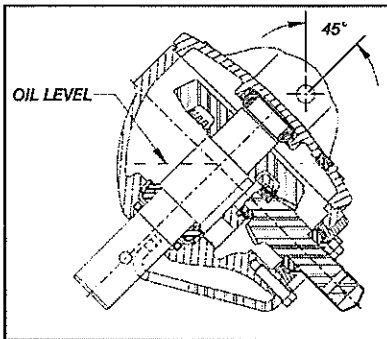

FIG. 4 - PIVOT GEARBOX 45 DEGREES TO CHECK OIL LEVEL
STEP 8: Remove the fill plug at the top of the gearbox, and fill the gearbox with two quarts of multigear lubricant EP SAE 140 **before operating the gearbox**. Tip the gearbox 45 degrees (avoid pinch points as gearbox pivots), and check the level at the plug (see Fig. 4). **DO NOT OVERFILL!** Replace the plug before operating the digger.